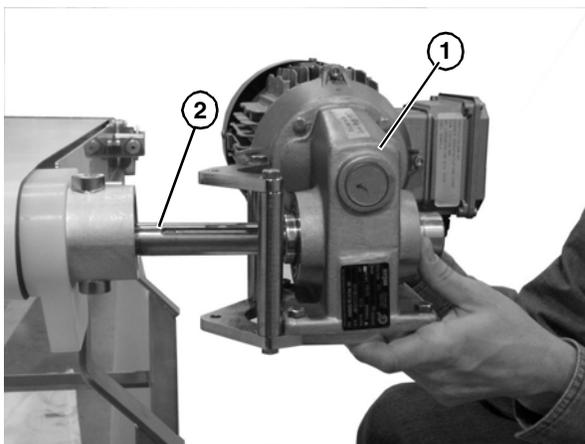

Figure 14
2. Slide the gearmotor assembly (Figure 14, item 1) onto the drive spindle (Figure 14, item 2).